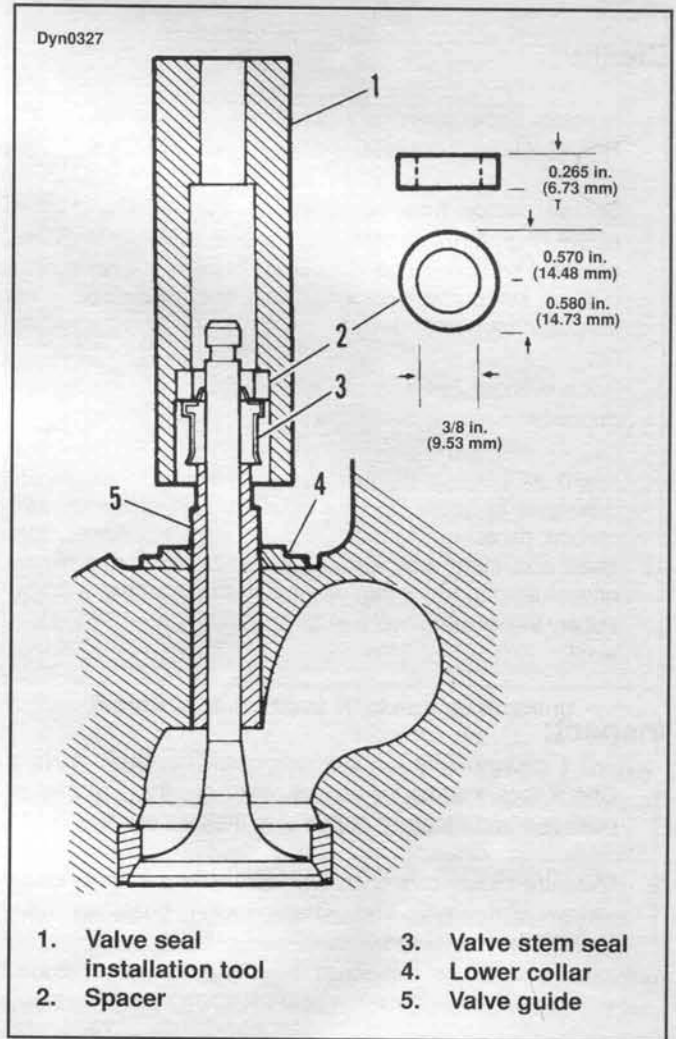

Figure 3-23. Valve Seal Installation With Spacer
5. See Figure 3-23. Insert valve into guide (5) and install lower collar (4).
7. See Figure 3-23. Tap the seal (3) onto the guide (5) using the VALVE SEAL INSTALLATION TOOL (1) and spacer (2), Part No. HD-34643 and DRIVER HANDLE, Part No. HD-34740. The seal is completely installed when the tool (1) touches the lower collar (4).